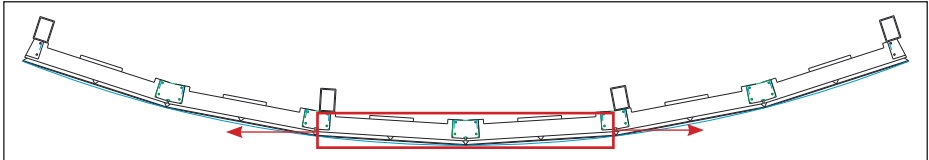
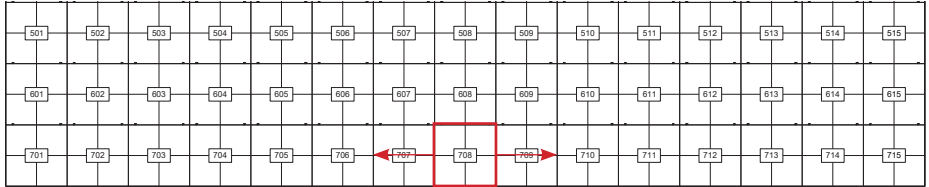

Figure 11: Install First Row of Panels (Top View)
Figure 12: Install First Row of Panels (Front View)
7. Repeat **Steps 3-6** for the remaining panels in the row, building from the center out. Refer to **Figure 11** and **Figure 12**. Ensure each panel is level and plumb.